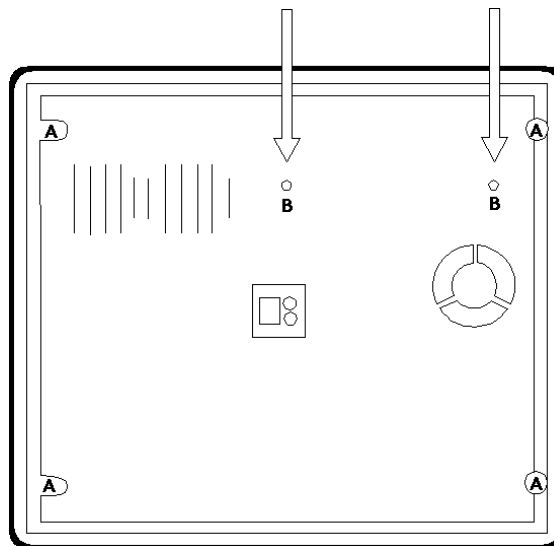

FIG 3
2. While in same position remove the two M4 transit screws and shakeproof washers holding the pump assembly in position at location **B** (as per fig 3)
3. Remove the four M5 screws and shakeproof washers holding the top moulding to the mother unit as seen in fig 3 position **A**
2. Remove the 2 transit screws if fitted from the pump assembly (as in fig 3) or fig 2A for Pulsair EasyEye